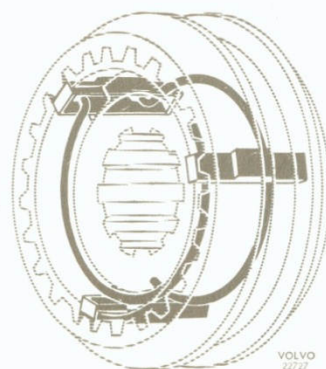

Fig. 3-24. Assembling synchronizing mechanism
3. Fit the parts for 1st and 2nd speed synchronizing mechanism onto the mainshaft. Fit the spring rings correctly, see Fig. 3-24.
Fit the spring rings correctly, see Fig. 3-24. Then fit the synchronizing mechanism onto the main-